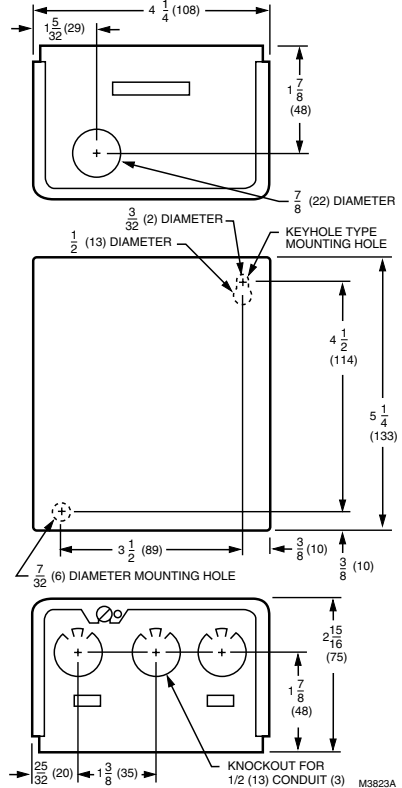

Fig. 1. RA889A dimensions in in. (mm).
See Fig. 1.
1. Position the relay and mark the mounting holes. See Fig. 1.